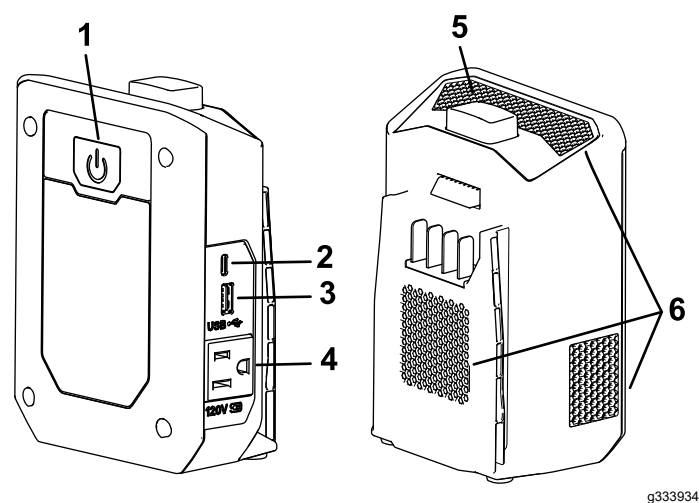

Figure 3
- 2. Press the power button on the back of the inverter to turn the inverter on, the LED lights up to solid green (Figure 3).